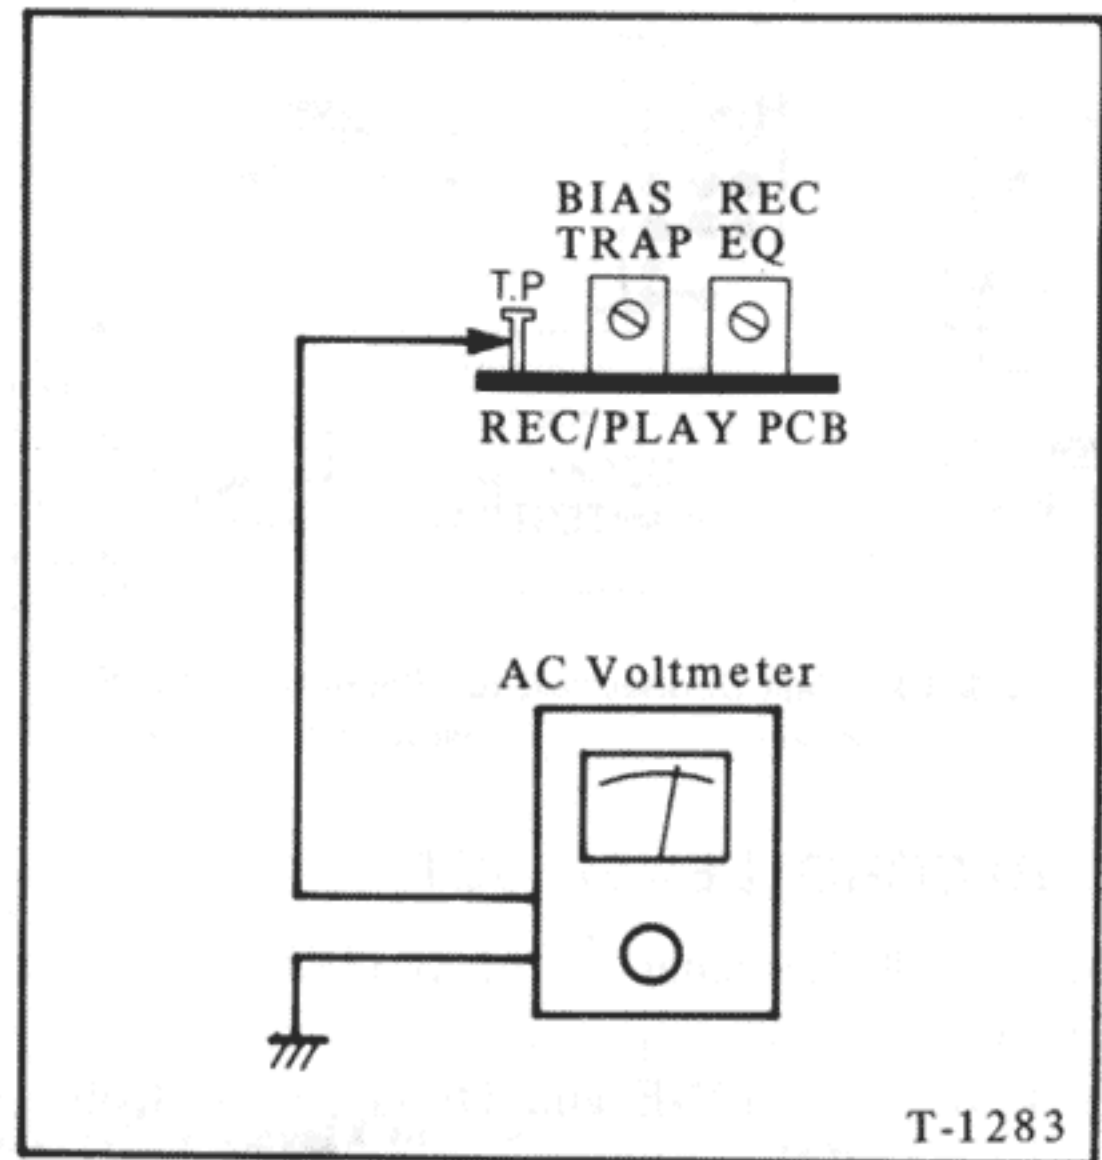

Fig. 8-8 Bias Limits Chart
3. Connect a VTVM or oscilloscope to Test Point (T.P.) and ground. See Fig. 8-8.